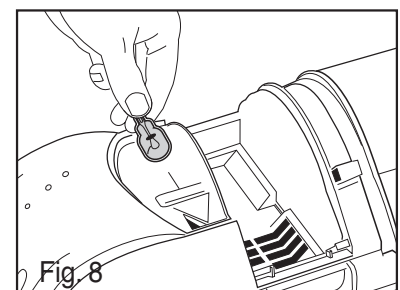

Fig. 8
3) Push in new bulb, replace lens cover and replace screw (Fig. 8).